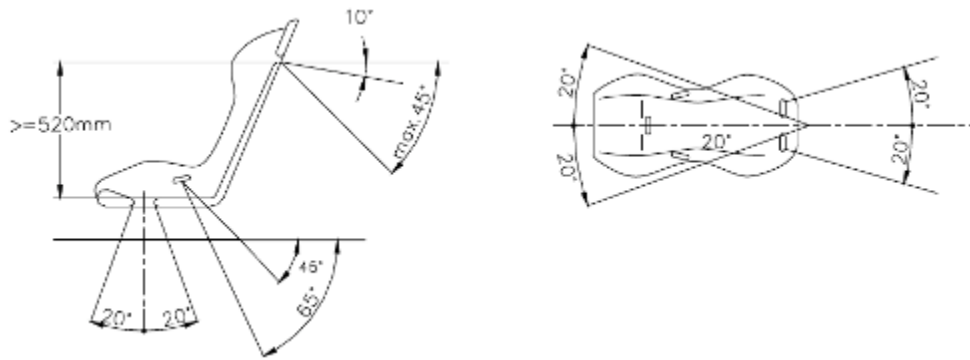

Figure 17
- 12.3.** Shoulder straps should be directed downwards and backwards and must be mounted at an angle of 10° maximum (Figure 17).